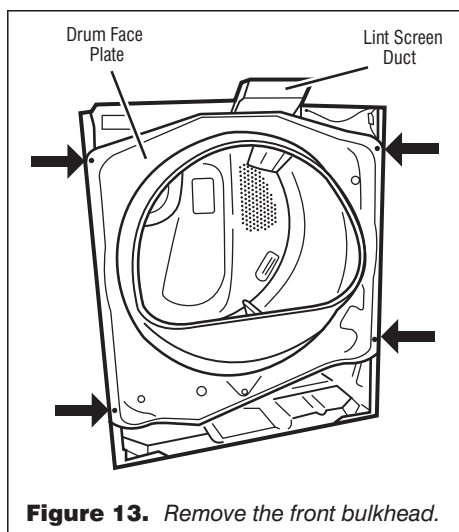

Figure 13. Remove the front bulkhead.
9. Remove the front bulkhead by loosening the upper two screws and removing the lower two screws. See figure 13.